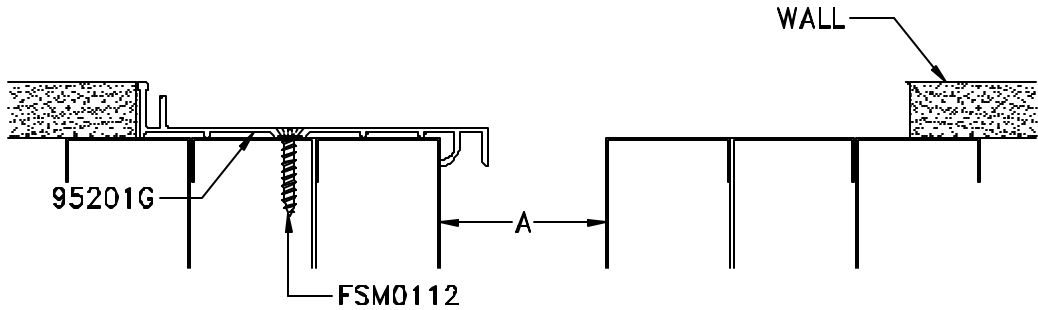

Figure 8
- STEP 16.** Attach the base member to the wall using the fasteners supplied by the factory (see Figure 8).